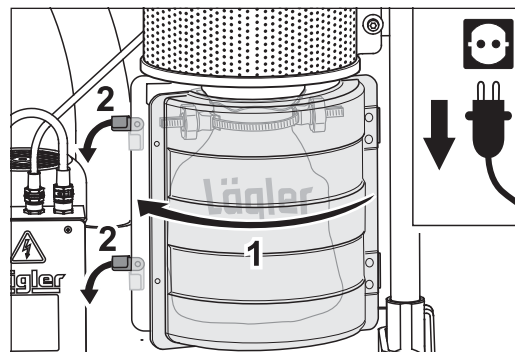

Fig. 11 Close the dust bag box (1) and lock it by turning the two fasteners back to their downward position (2).
- 10 Close the dust bag box (fig. 11, 1) and lock it by turning the two fasteners back to their downward position (fig. 11, 2).